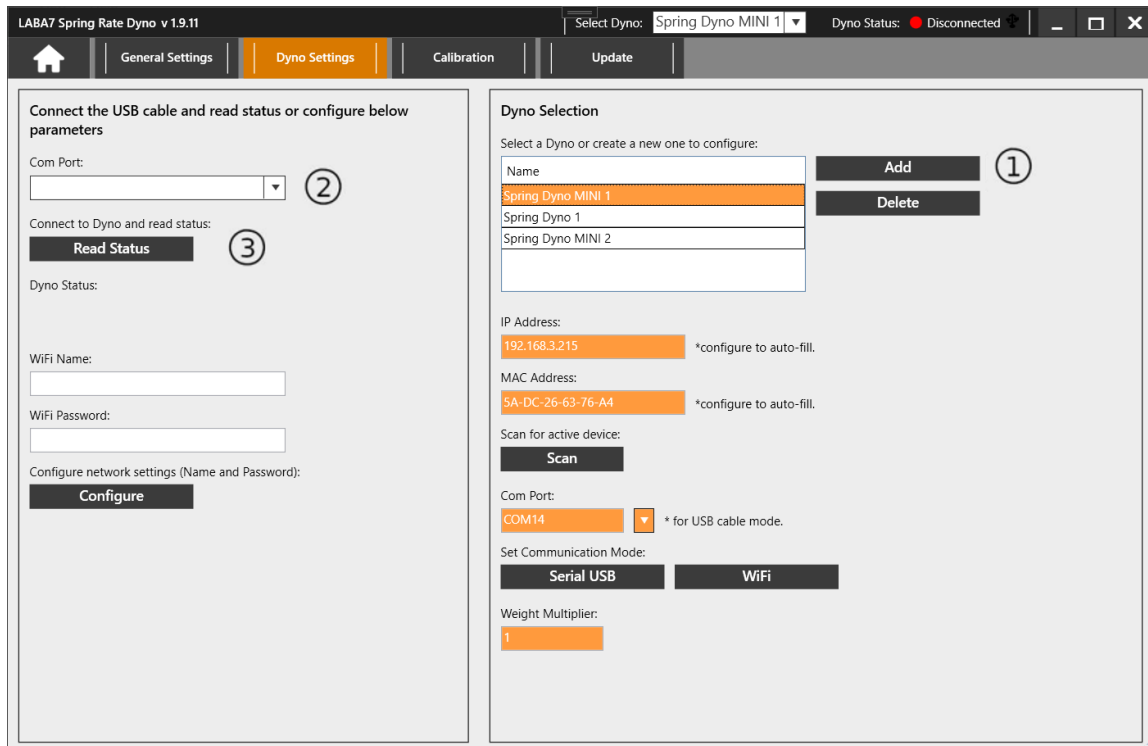

Figure 11
6. Add a new Dyno model by clicking the **Add** button (Figure 11 – Step 1).
10. Select the newly appeared Com Port of the connected Dyno from the drop-down menu (Figure 11 – Step 2).
11. Click on the **Read Status** button (Figure 11 – Step 3).